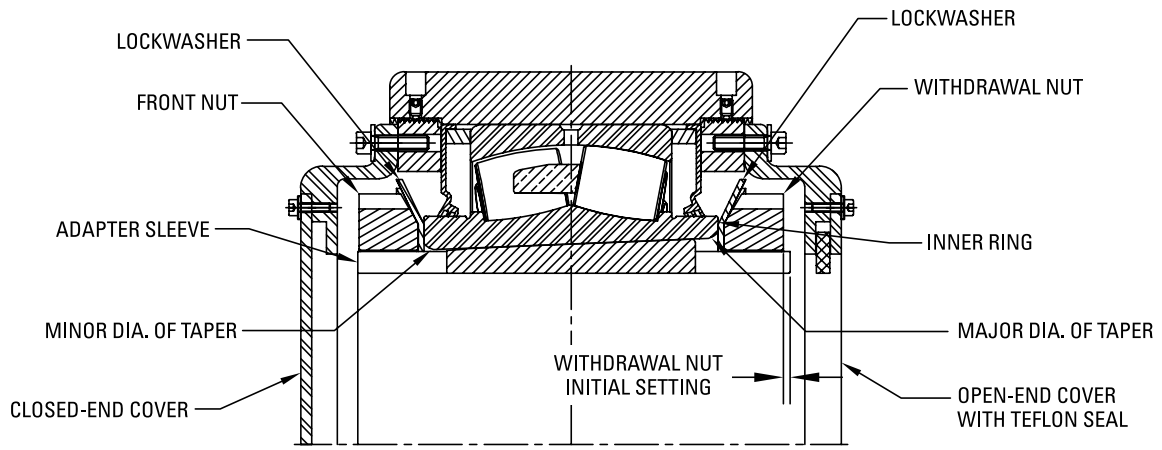
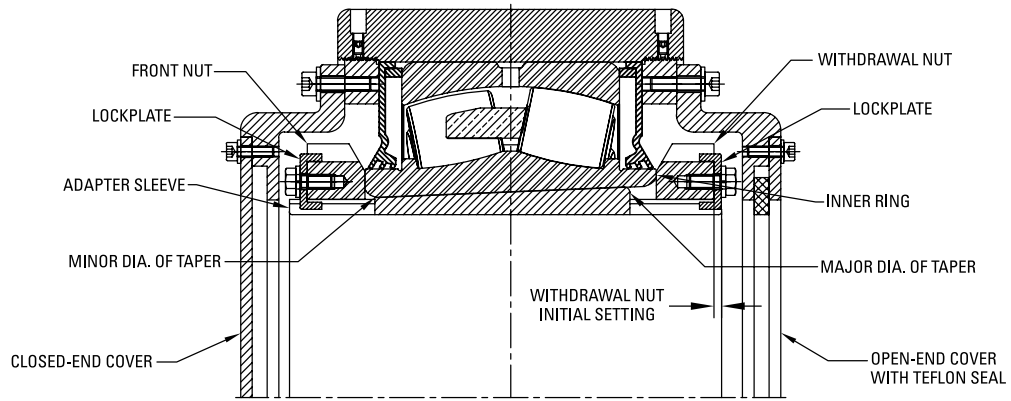

Fig. 2. Cross-sectional view of bearing sizes 23132K to 23140K
Fig. 3. Cross-sectional view of bearing sizes 23144K and larger
(1) Housed units with bearing part no. 23132K to 23140K use lockwashers (Figure 2). Housed units with bearing part no. 23144K and larger use lockplates (Figure 3).